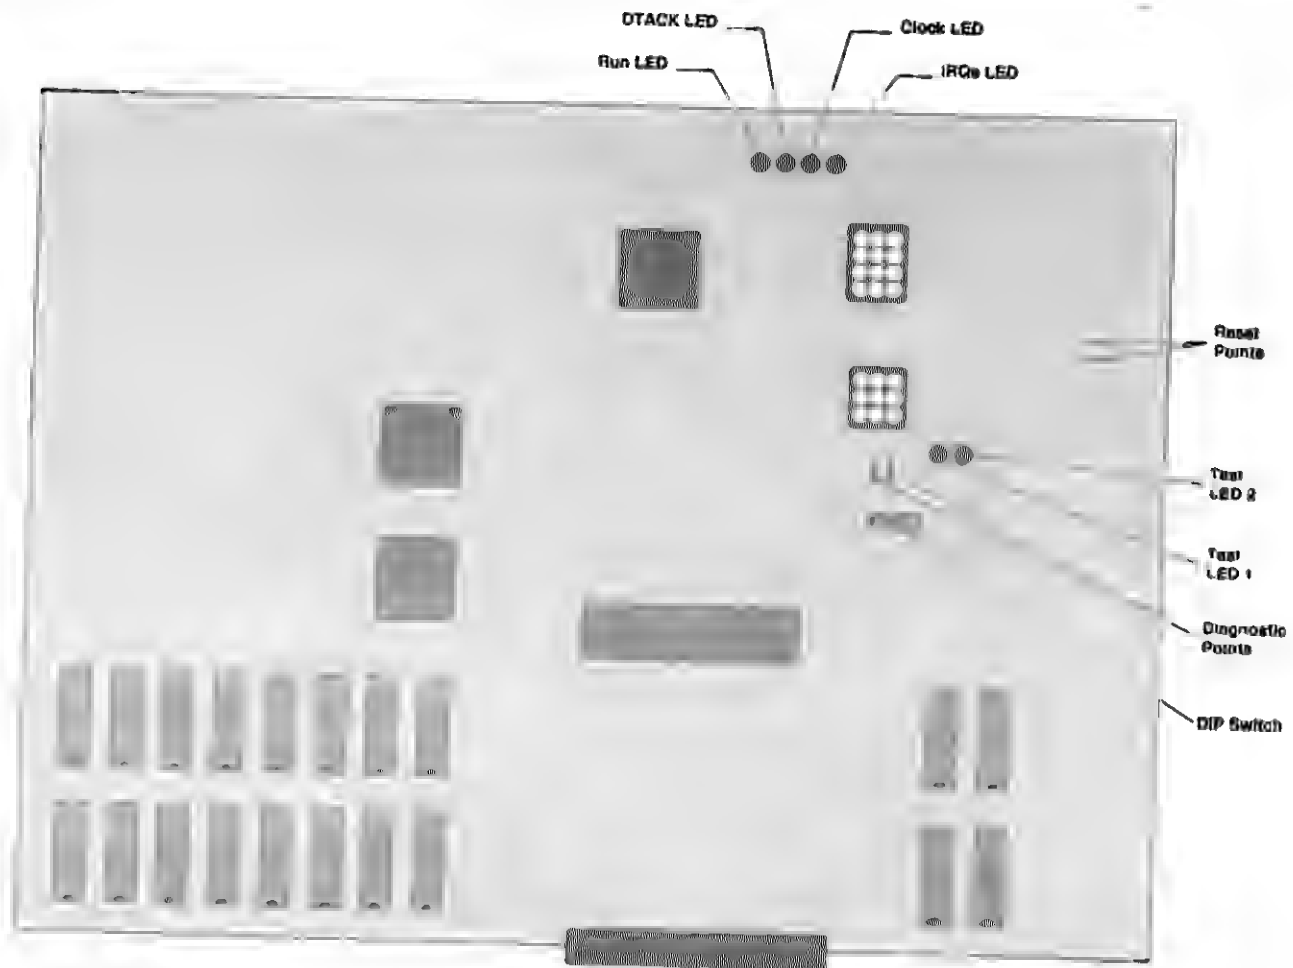

Figure 2-29 DIP Switch and LED Locations on the Main PCB
Figure 2-29 shows the location of the LEDs on the main PCB. Table 2-9 shows the possible status of the LEDs, with an explanation of what they indicate.
1. Put a jumper across the DIAGN test points, shown on Figure 2-29.
4. Put a jumper momentarily across the RESET test points, shown in Figure 2-29.
2. Put a jumper momentarily across the RESET test points, shown in Figure 2-29.